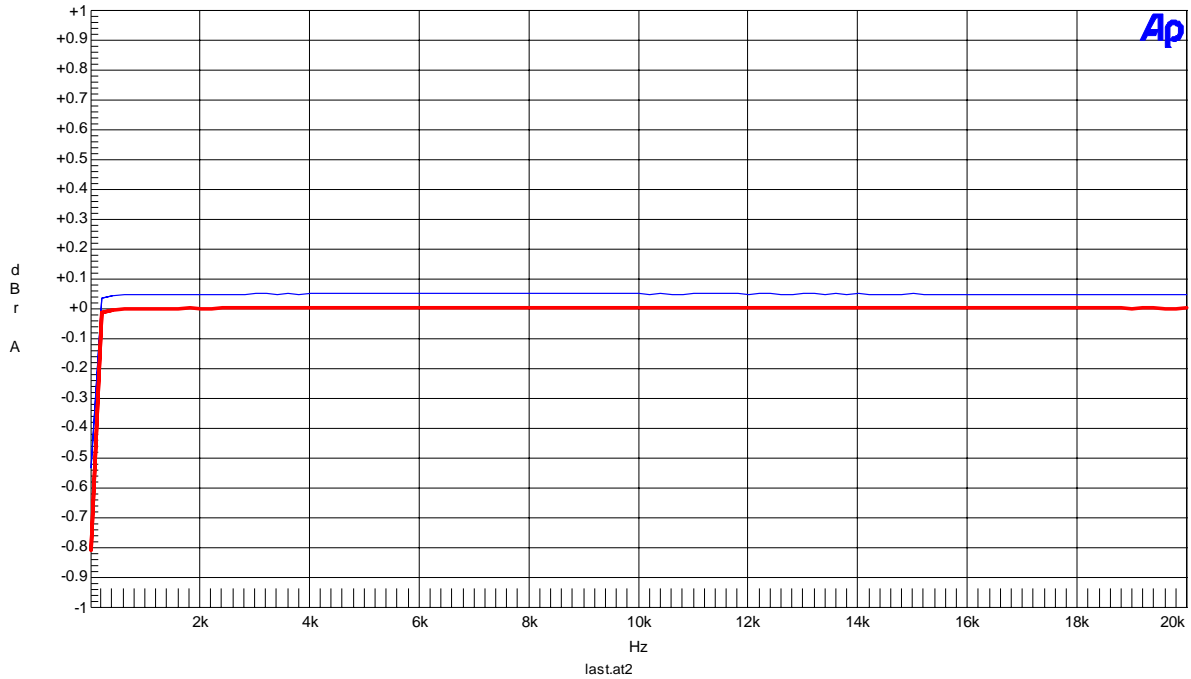

Figure1-7. Frequency Response (Input level=0dBV)
- Figure 1-7. Frequency Response (Input Level=0dBV)